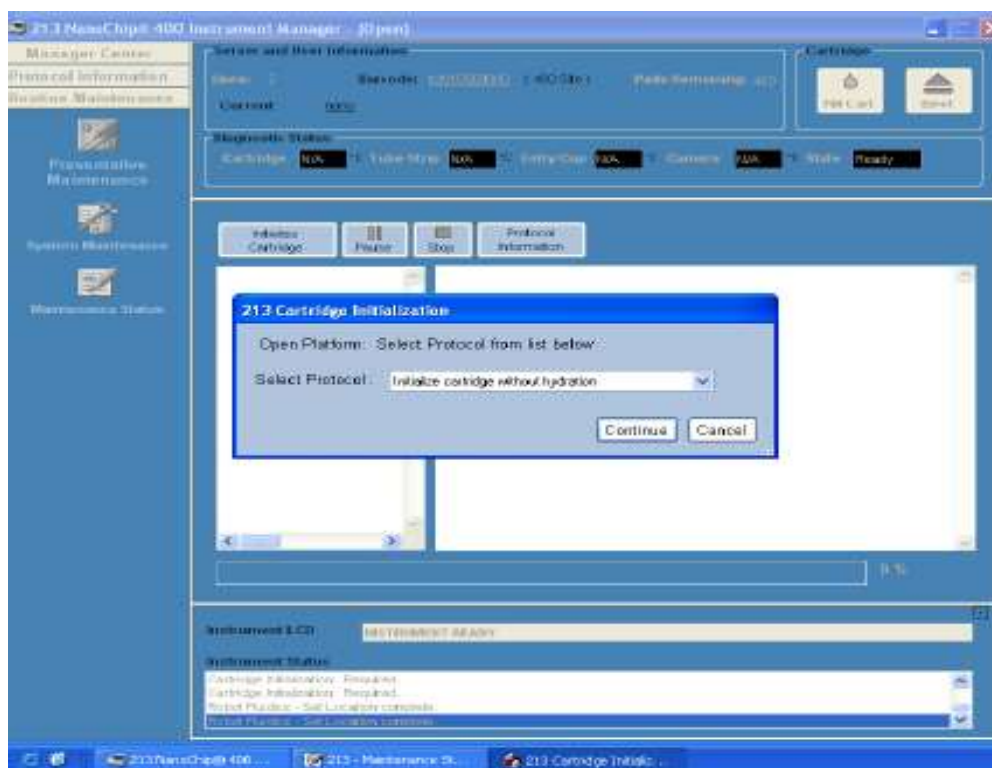

Figure 2: NanoCHIP® 400 instrument Manager
9. When the Cartridge Initialization window appears, select **Initialize Cartridge with Hydration** (see figure 2).